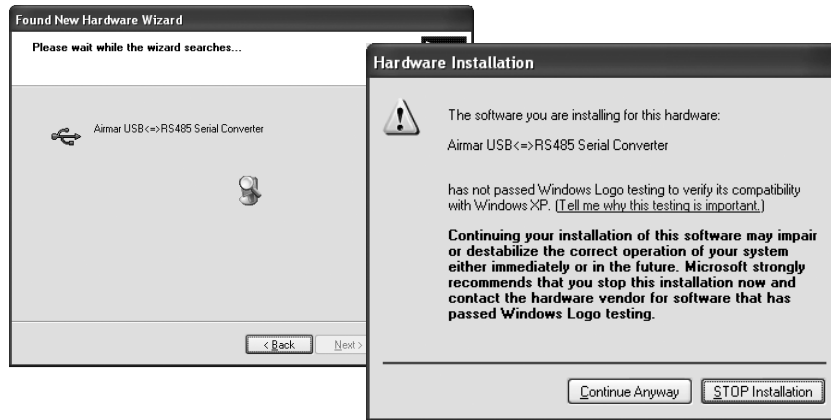

Figure 13. Please Wait window and Hardware Installation Caution window
5. The Please Wait window followed by the Hardware Installation caution window will appear (see Figure 13). The USB Controller Driver is not Microsoft Windows® certified. However, it has been tested for stable and reliable operation. Click Continue Anyway to proceed with the installation.